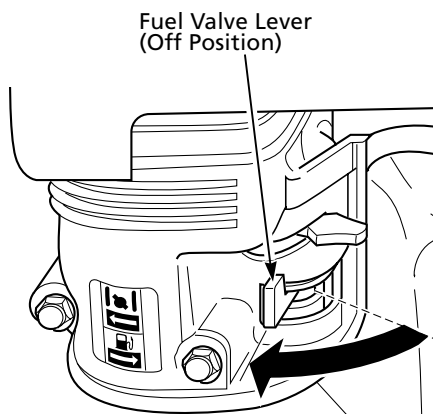

Figure 35 – Fuel Valve Lever Off
4. Turn fuel valve lever off. Do this by moving valve lever fully to the left (See Figure 35).